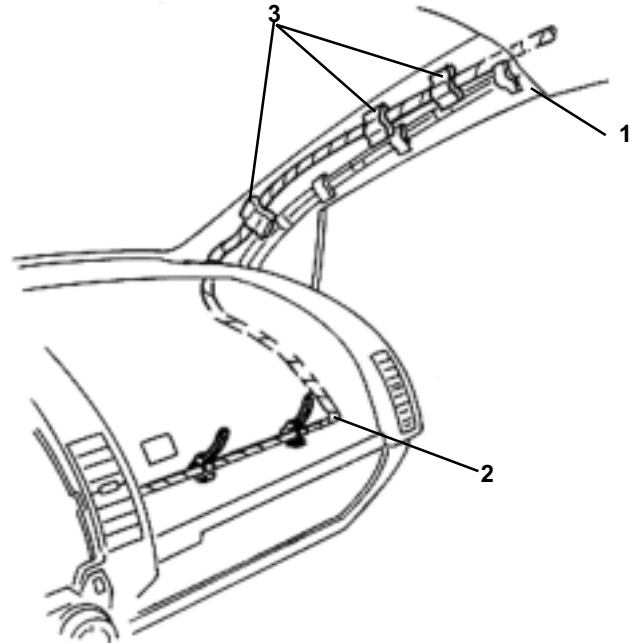

FIGURE 33
4. CONTINUE ROUTING THE DVD MAIN WIRING HARNESS FROM THE TOP OF THE A-PILLAR (1) DOWN TO THE GLOVE BOX AREA (2) AND SECURE USING THREE PIECES OF FOAM TAPE (3). (SEE FIGURE 33)